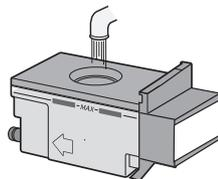

Figure 3
4. Make sure the lid is closed firmly. (Figure 3)